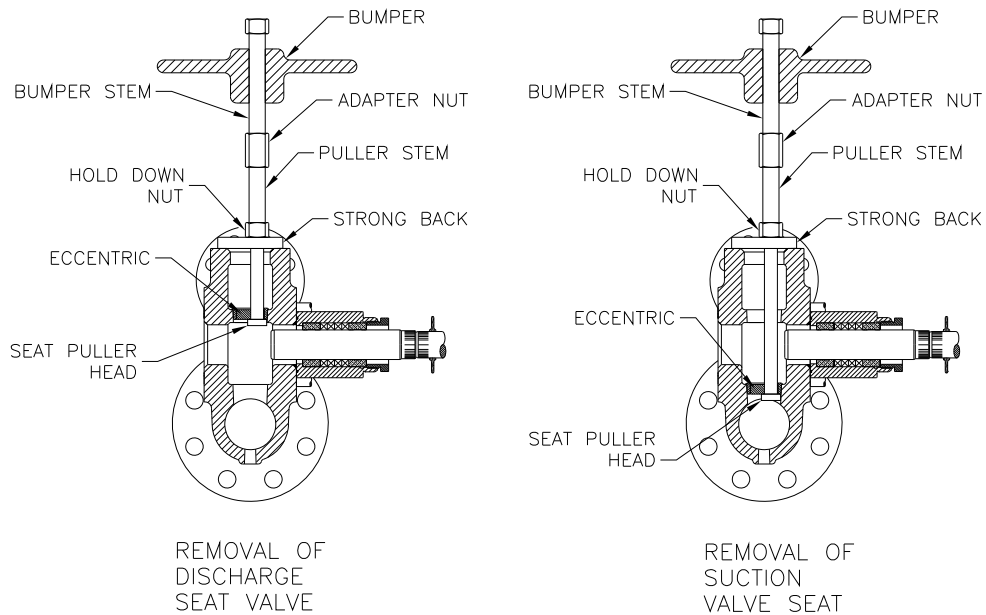

Figure 10
- g. Use the special valve puller and remove the valve seat. See figure 10.